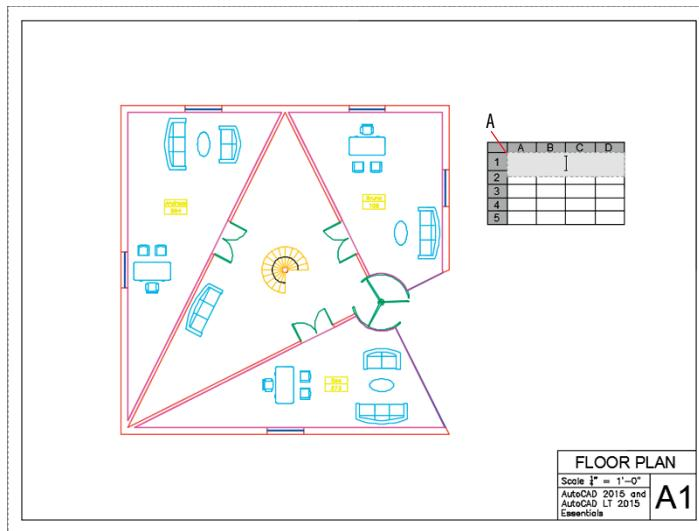

FIGURE 15.18 Placing a new table on the layout
9. Click approximately at point A in Figure 15.18 to place the empty table on the layout.